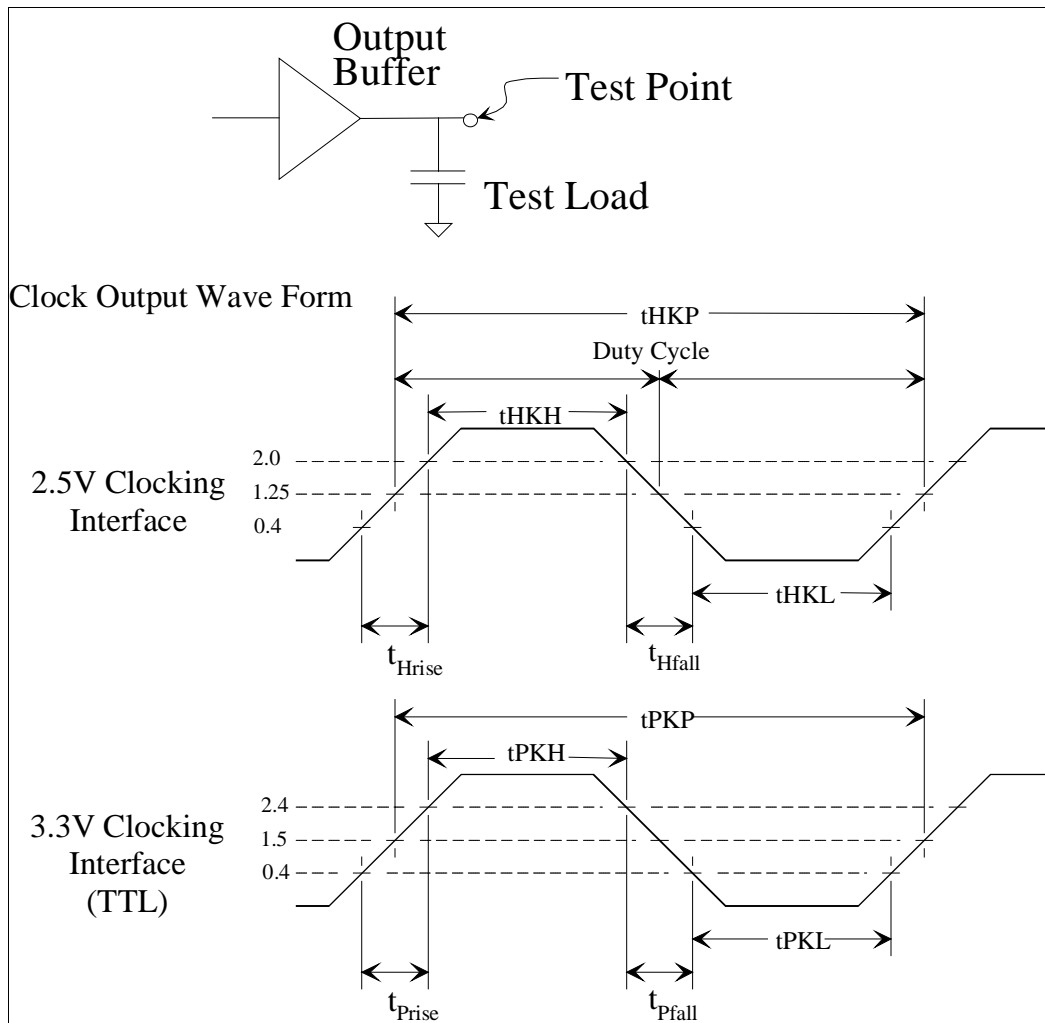

Figure 4-1 CK100 Clock Waveforms
- Output drivers must have the characteristics noted in Section 2 above. See Figure 4.1 for measure points.
- tHKH is measured at 2.0V as shown in Figure 4-1.
- tHKL is measured at 0.4V as shown in Figure 4-1.
3. tSDKH is measured at 2.4V as shown in Figure 4-1.
4. tSDKL is measured at 0.4V as shown in Figure 4-1.